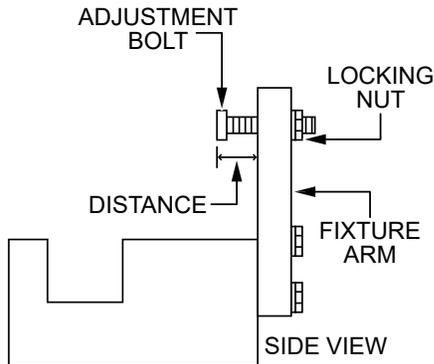

Figure 49. Trowel Arm Adjustment Tool (Side View)
Figure 49 illustrates a **trowel arm adjustment tool**. As a trowel arm is locked into the adjustment tool, the trowel arm bolt is adjusted to where it contacts a stop on the fixture. This will consistently adjust all of the trowel arms, keeping the finisher as flat and evenly pitched as possible.
3. Adjust the fixture adjustment bolt distance shown in Figure 49 to 0.15 in. (3.81 mm).